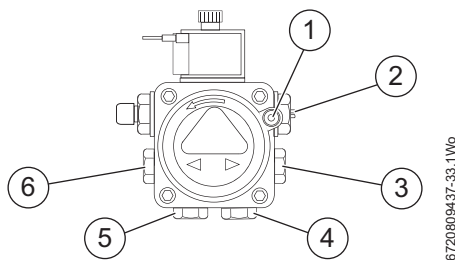
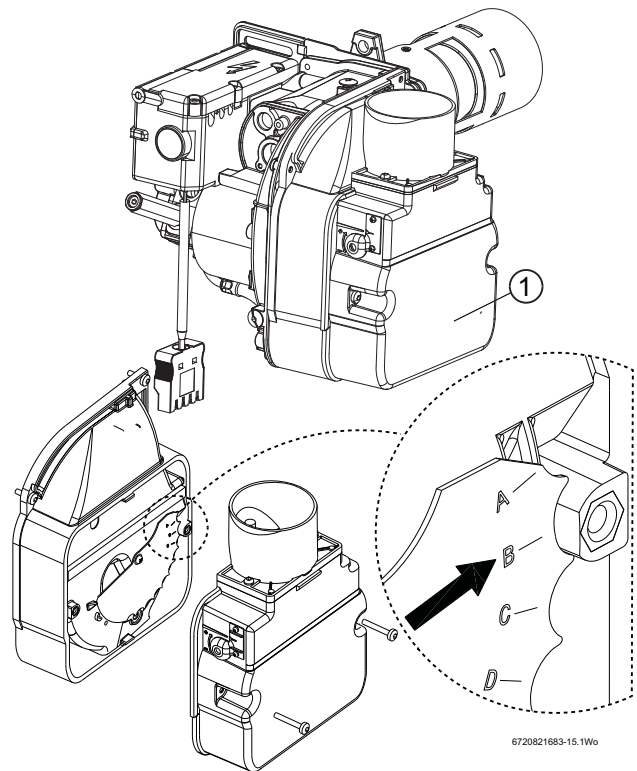

Fig. 49 Oil pump ports/connections
Fig. 50
- ▶ Adjust the air shutter [3] → figure 50 and pump pressure [2] → figure 49 as shown in the table 9 on page 32. The burner should ignite following a pre-ignition period of approximately 15 seconds.